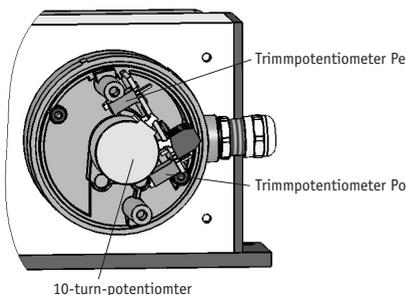

Fig. 14: Adjustment of the trimmpotentiometer
**Via two trimmpotentiometer's Po and Pe (see fig. 14 these values can be adjusted to the application's actual start and end position:**